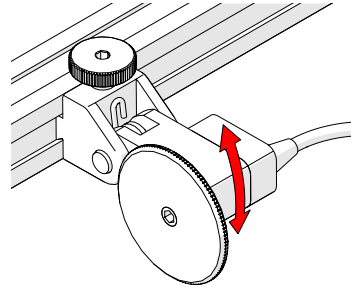

Fig. 38 - Place on scan surface
3. Spring tension maintains encoder contact with the scan surface (*Fig. 38*).